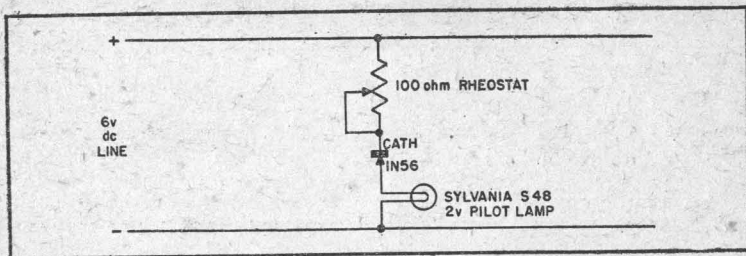

Figure 6. Circuit of Polarity Reversal Alarm.
- Figure 6. Crystal: WB4B Westinghouse or CG6M B.T.H.
Figure 6 shows the circuit of a simple polarity reversal alarm. A small, Sylvania S48 2-volt pilot lamp is connected in series with a crystal diode and resistor across the line to be monitored. The cathode terminal of the crystal normally is connected to the positive side of the line. The crystal connected in this manner offers high resistance and the lamp cannot light. If the polarity of the line is reversed, the crystal cathode then is connected to the *negative* side of the line, and the crystal presents a low resistance to the line voltage. The larger current then flowing through the crystal circuit lights the lamp. A visual alarm which may be seen at some distance is provided.
The circuit as shown in Figure 6 is entirely satisfactory for short-time indications, since the resistor limits the crystal current to 60 milliamperes. If there is likelihood that the lamp might burn for some time before attracting the operator's attention, two crystal diodes should be connected in parallel to handle the current. If line voltages higher than 6 volts are employed, the resistance of the rheostat must be increased to a value which will limit current through the crystal and lamp to 60 milliamperes. The exact value of this resistance will have to be determined experimentally for the particular line voltage used.
To set the circuit of Figure 6 initially, make the upper side of the line negative and adjust the rheostat until the lamp burns. A dc milliammeter may be connected temporarily in series with the crystal and lamp to check the current. In normal operation, keep the upper side of the line positive.